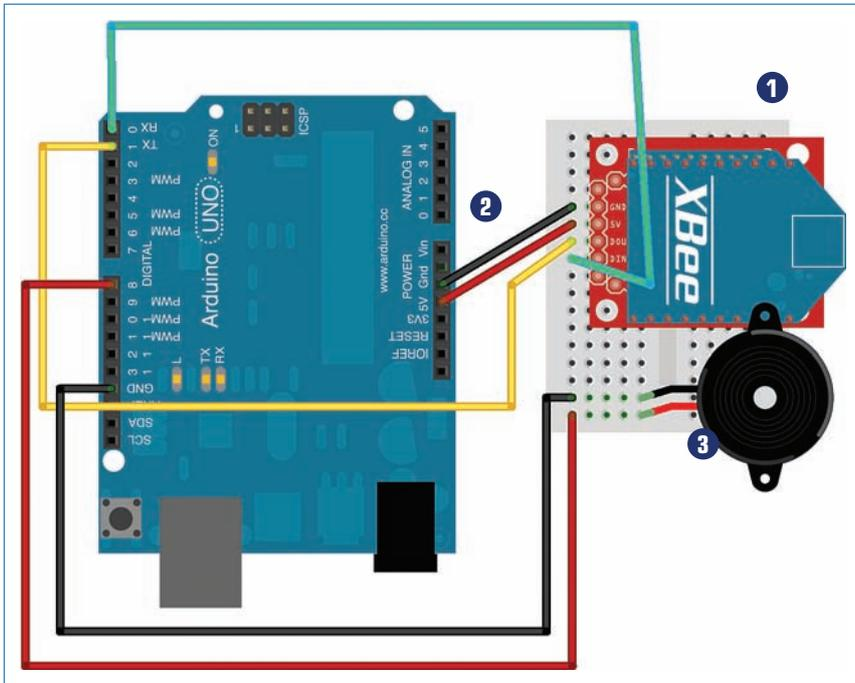

FIGURE 4.13 The buzzer unit consists of an Arduino, XBee, and buzzer.
Next, use Figure 4.13 as a guide for connecting the various parts:
- 3.** Connect the buzzer's leads to the breadboard as well, as shown in Figure 4.13. You can connect them directly to the Arduino if you want—if you go this route, connect the red wire to pin 8 and the black wire to any free GND.